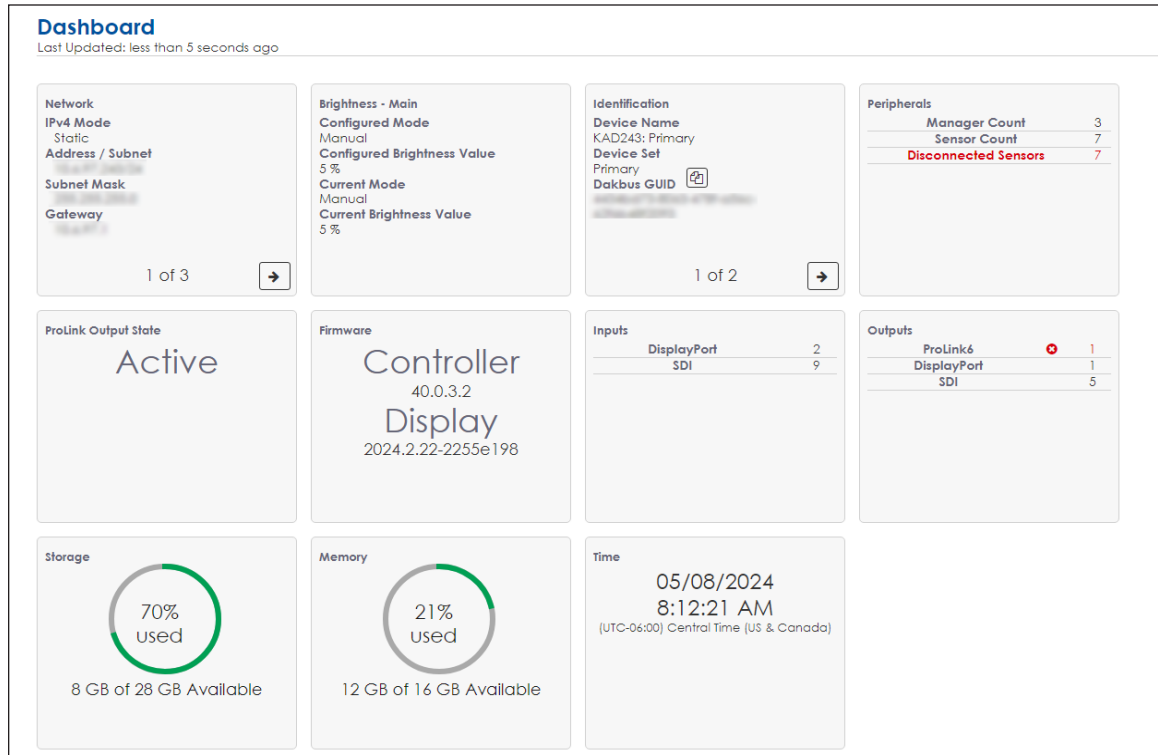

Figure 16: Dashboard Status Tiles
Click **Dashboard**  to show the system status tiles. Refer to **Figure 16**.
- **Outputs** – This tile shows the types and number of the processor's configured outputs. If any type of output has an error, this is indicated in red. Refer to **Figure 16**.